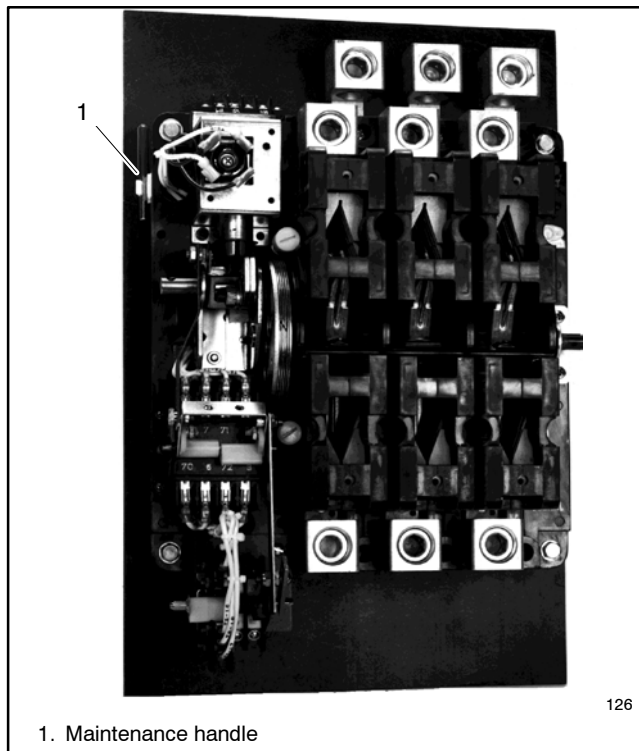

Figure 6-1 Typical Manual Handle Storage
225-400 amp transfer switches have a detachable handle for manual operation. See Figure 6-1 for the typical handle storage location.
2. Remove the maintenance handle from the clips on the left side of the transfer switch frame. See Figure 6-1.